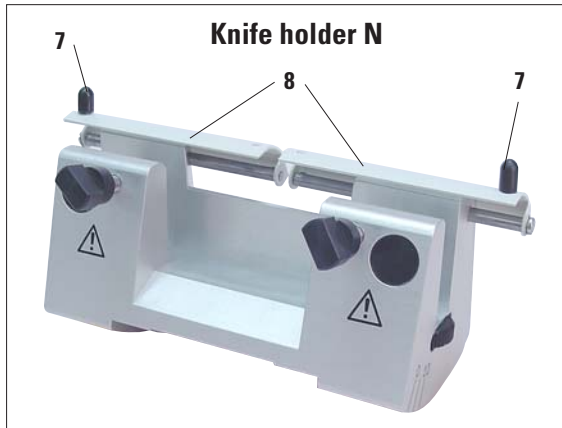

Fig. 4
The knife guard (8) of the knife holder N/NZ can be easily positioned via the two handles (7) (Fig. 4).